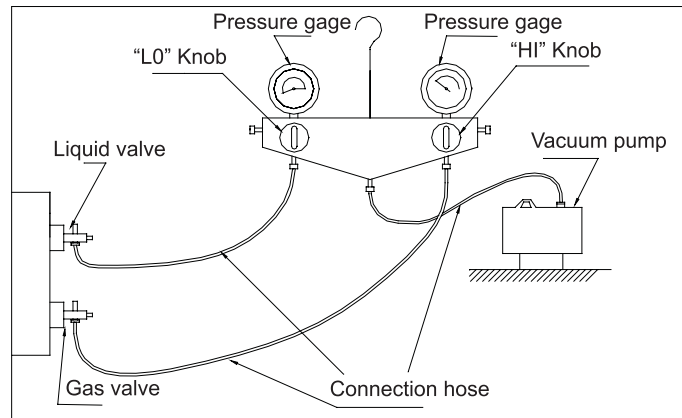

Figure 3-1-5
- Connect the tube of the vacuum watch with the vacuum pump, having the low-pressure end linking to the inlet for refrigerant. (As shown in Figure 3-1-5)